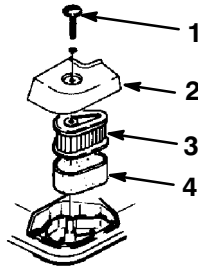

Figure 13
3. Remove the bolt that secures the air cleaner cover (Fig. 13).
4. Remove the cover and clean it thoroughly (Fig. 13).
5. Remove the foam pre-cleaner and wash it with a mild detergent and water, then blot it dry (Fig. 13).
7. Remove the paper air filter (Fig. 13) and clean it by **gently** tapping it to remove the dust. Replace it if it is very dirty.